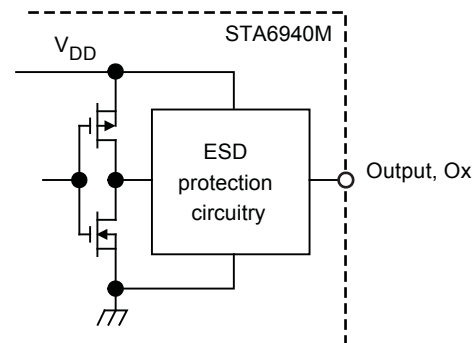

Figure 14. Diag terminal equivalent circuit
- **Output Terminal (Diag)** The Diag terminal has an internal equivalent circuit as shown in figure 14. Because this is a CMOS circuit structure, if the terminal is not being used it should be left open.